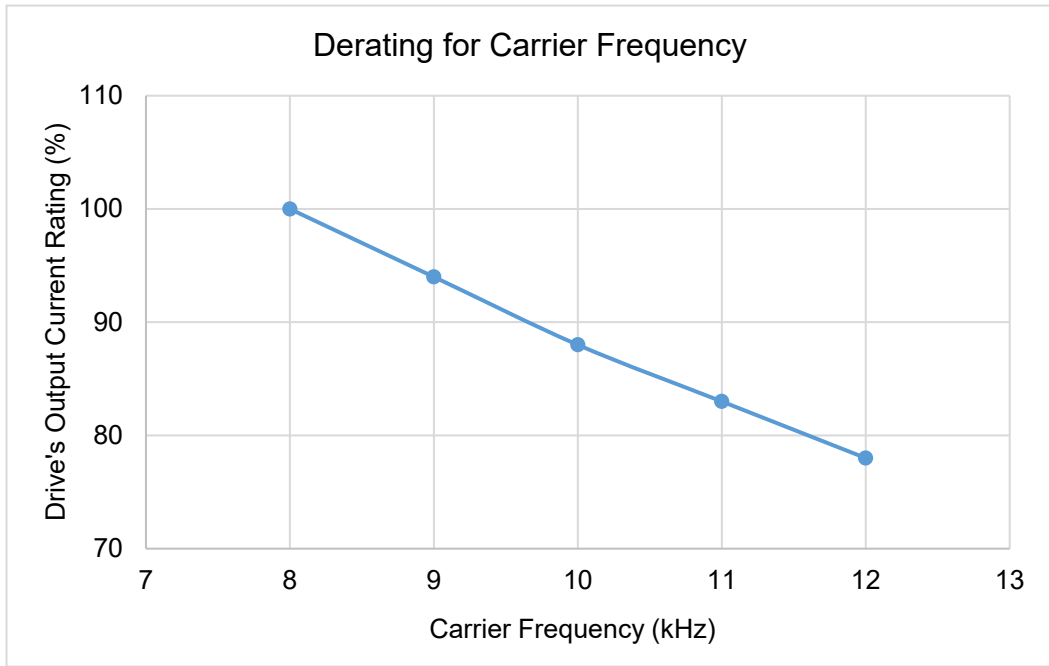

Figure 7-2
2. If carrier frequency is larger than 8 kHz, rated output current will decrease. See Figure 7-2 derating curve in Section 7-4.